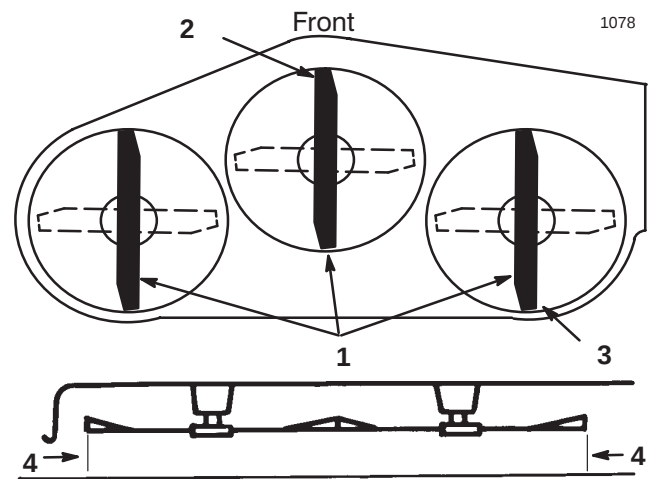

Figure 42
7. Set the height-of-cut at 3 inch (76 mm) and carefully rotate the blades so they are facing front to rear (Fig. 42).
8. Measure between the tip of the front blade (Fig. 42) and the tip of the rear blade to the flat surface. If the front blade tip is not 1/16–5/16 inch (1.6–7.9 mm) lower than the rear blade tip, adjust the front trunnion rods.
11. After adjusting both trunnion rod yokes evenly, secure the yokes with the hairpin cottes. Check the front-to-rear level again. Continue adjusting the yokes until the front blade tip is 1/16–5/16 inch (1.6–7.9 mm) lower than the rear blade tip (Fig. 42).